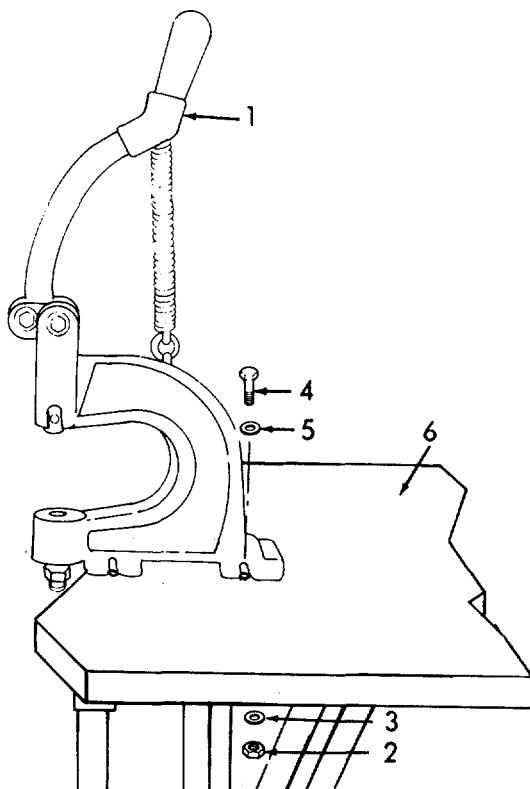

Figure 2-59. Tack-Button Attaching Machine, Removal.
- c. Tack-Button Attaching Machine (Refer to Figure 2-59).